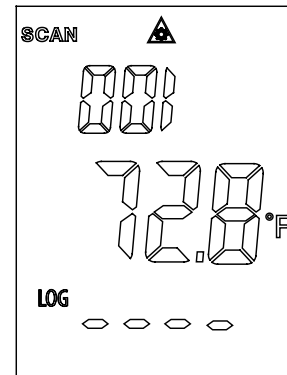

Fig. 1
1. While holding the trigger, press the **MODE** button until the **LOG** icon appears in the lower left corner of the screen. A LOG location number will be shown in the top display and “----” will appear in the bottom display if no temperature has been saved to that location (Fig. 1).